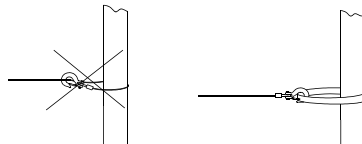

figure 4
11. Never turn over the wire rope to hook the wire rope. Or, it will damage the wire rope. You should use a nylon belt (See figure 4).